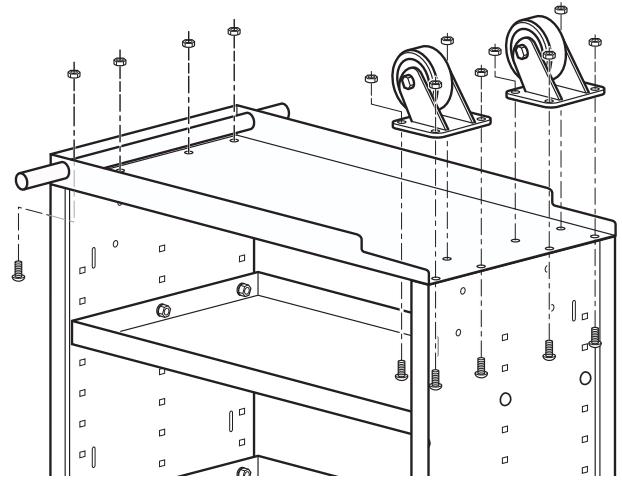

Figure 4-26
- Align the mounting holes on each Side Panel flange with the mounting holes on each end of the Base. Place the Casters (item #13) in the corners of the Base as shown in Figure 4-26. Align the Caster mounting holes with the mounting holes in the Side Panel flange and Base. Attach Casters, Base, and Side Panel using eight M8 x 25 Round-Head Square-Neck Carriage Bolts (item #11) with M8 Flanged Nylock Hex Nuts (item #2), as shown in Figure 4-26. Attach the axle-end of the Base to the Side Panel using four M8 x 20 Round-Head Square-Neck Carriage Bolts (item #3) with M8 Flanged Nylock Hex Nuts (item #2). **Fully tighten all nuts from steps 1 and 2, then fully tighten all nuts from step 6.**